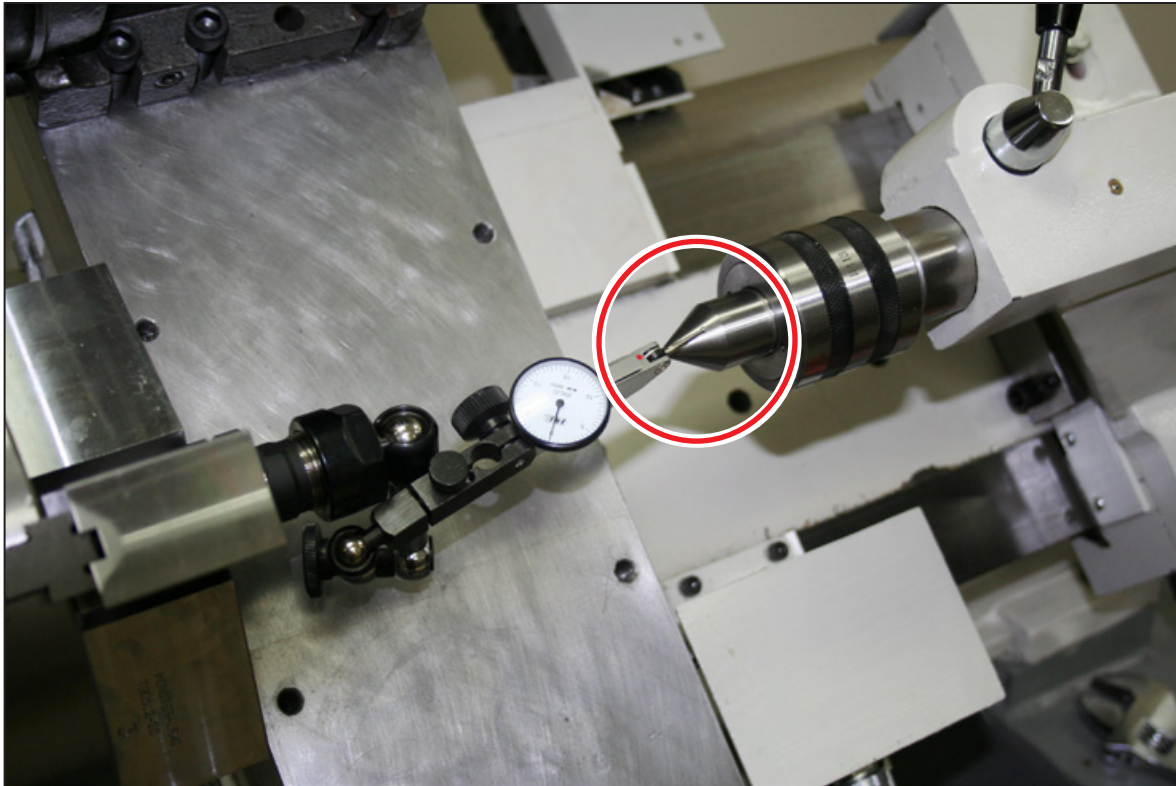

Figure 13
5. If necessary, make any additional adjustments using a dial indicator. To do this, insert a dial indicator in the spindle and sweep the tailstock's live center until desired accuracy is reached (see **Figure 13**).